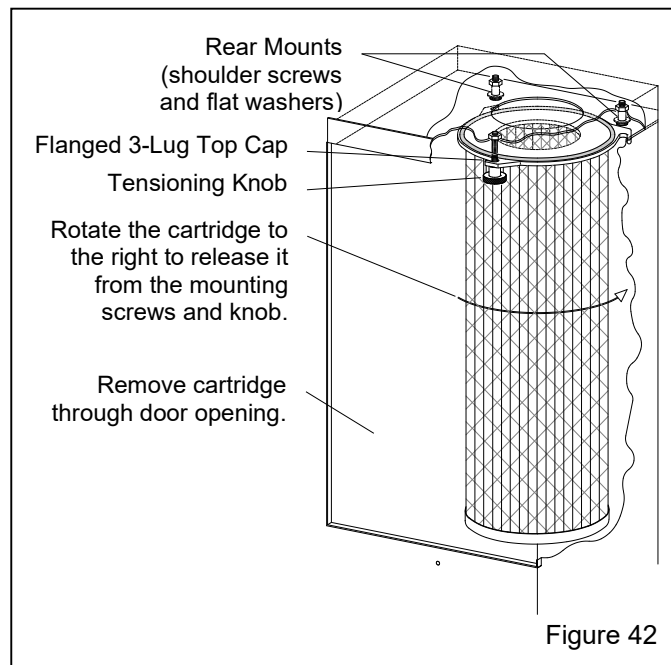

Figure 42
7.12.3 The filter cartridge is secured with a twist-to-release 3-lug top cap. Loosen the tensioning knob enough to rotate the filter cartridge to the right to release it from the two rear shoulder screws, as shown in Figure 42, but do not release the cartridge from the mounts at this time.